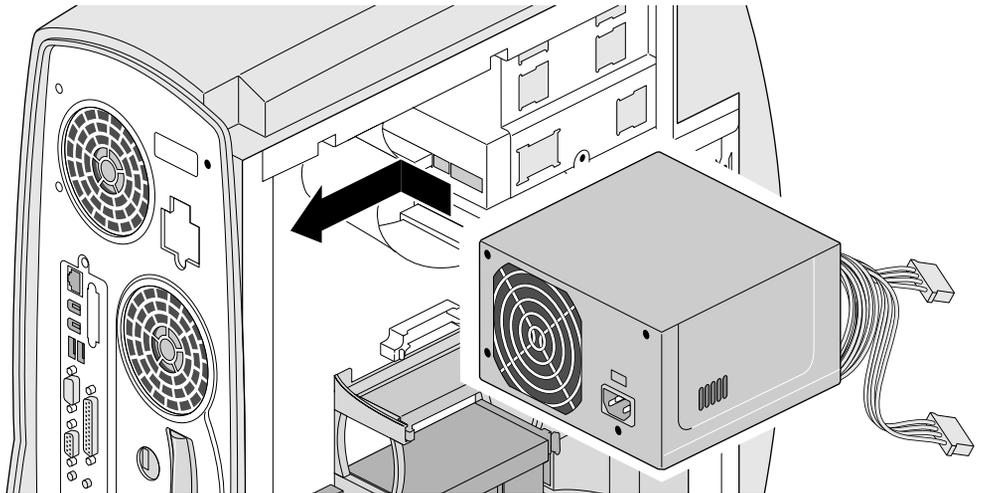

Figure 7-4 Installing the Power Supply
3. Slide the power supply into the top left corner of the system, as shown in Figure 7-4.